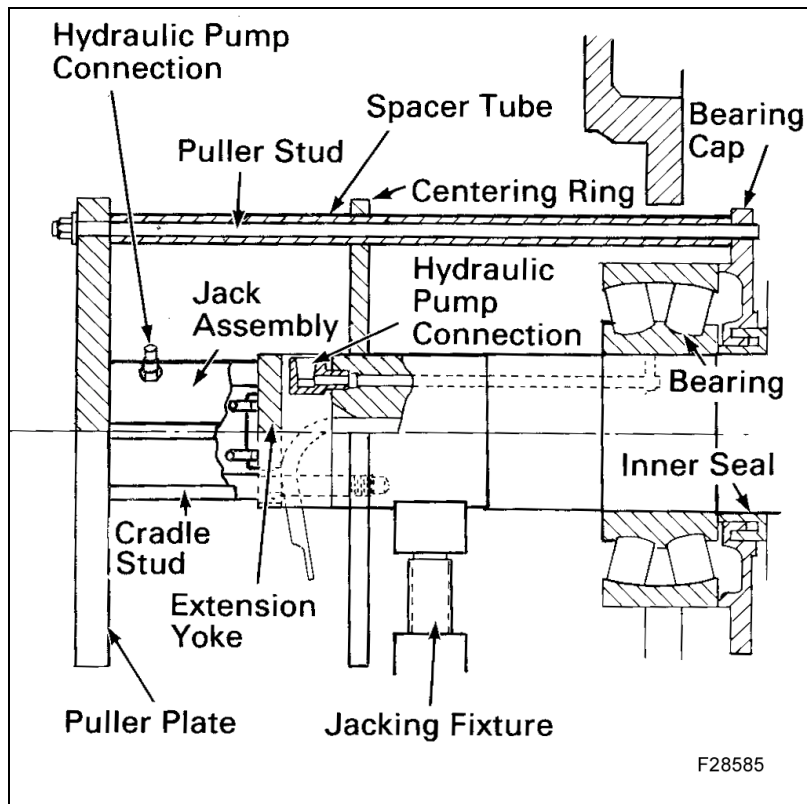

Figure 13 Bearing Removal
11. Thread six puller studs into flange of bearing cap. Install six spacer tubes and centering ring as shown in Figure 13.
12. Place extension yoke around field leads and bolt extension yoke to shaft as shown in Figure 13.
13. Install puller plate. Place assembly jack between extension yoke and puller plate, supported by cradle studs of puller plate, as shown in Figure 13.